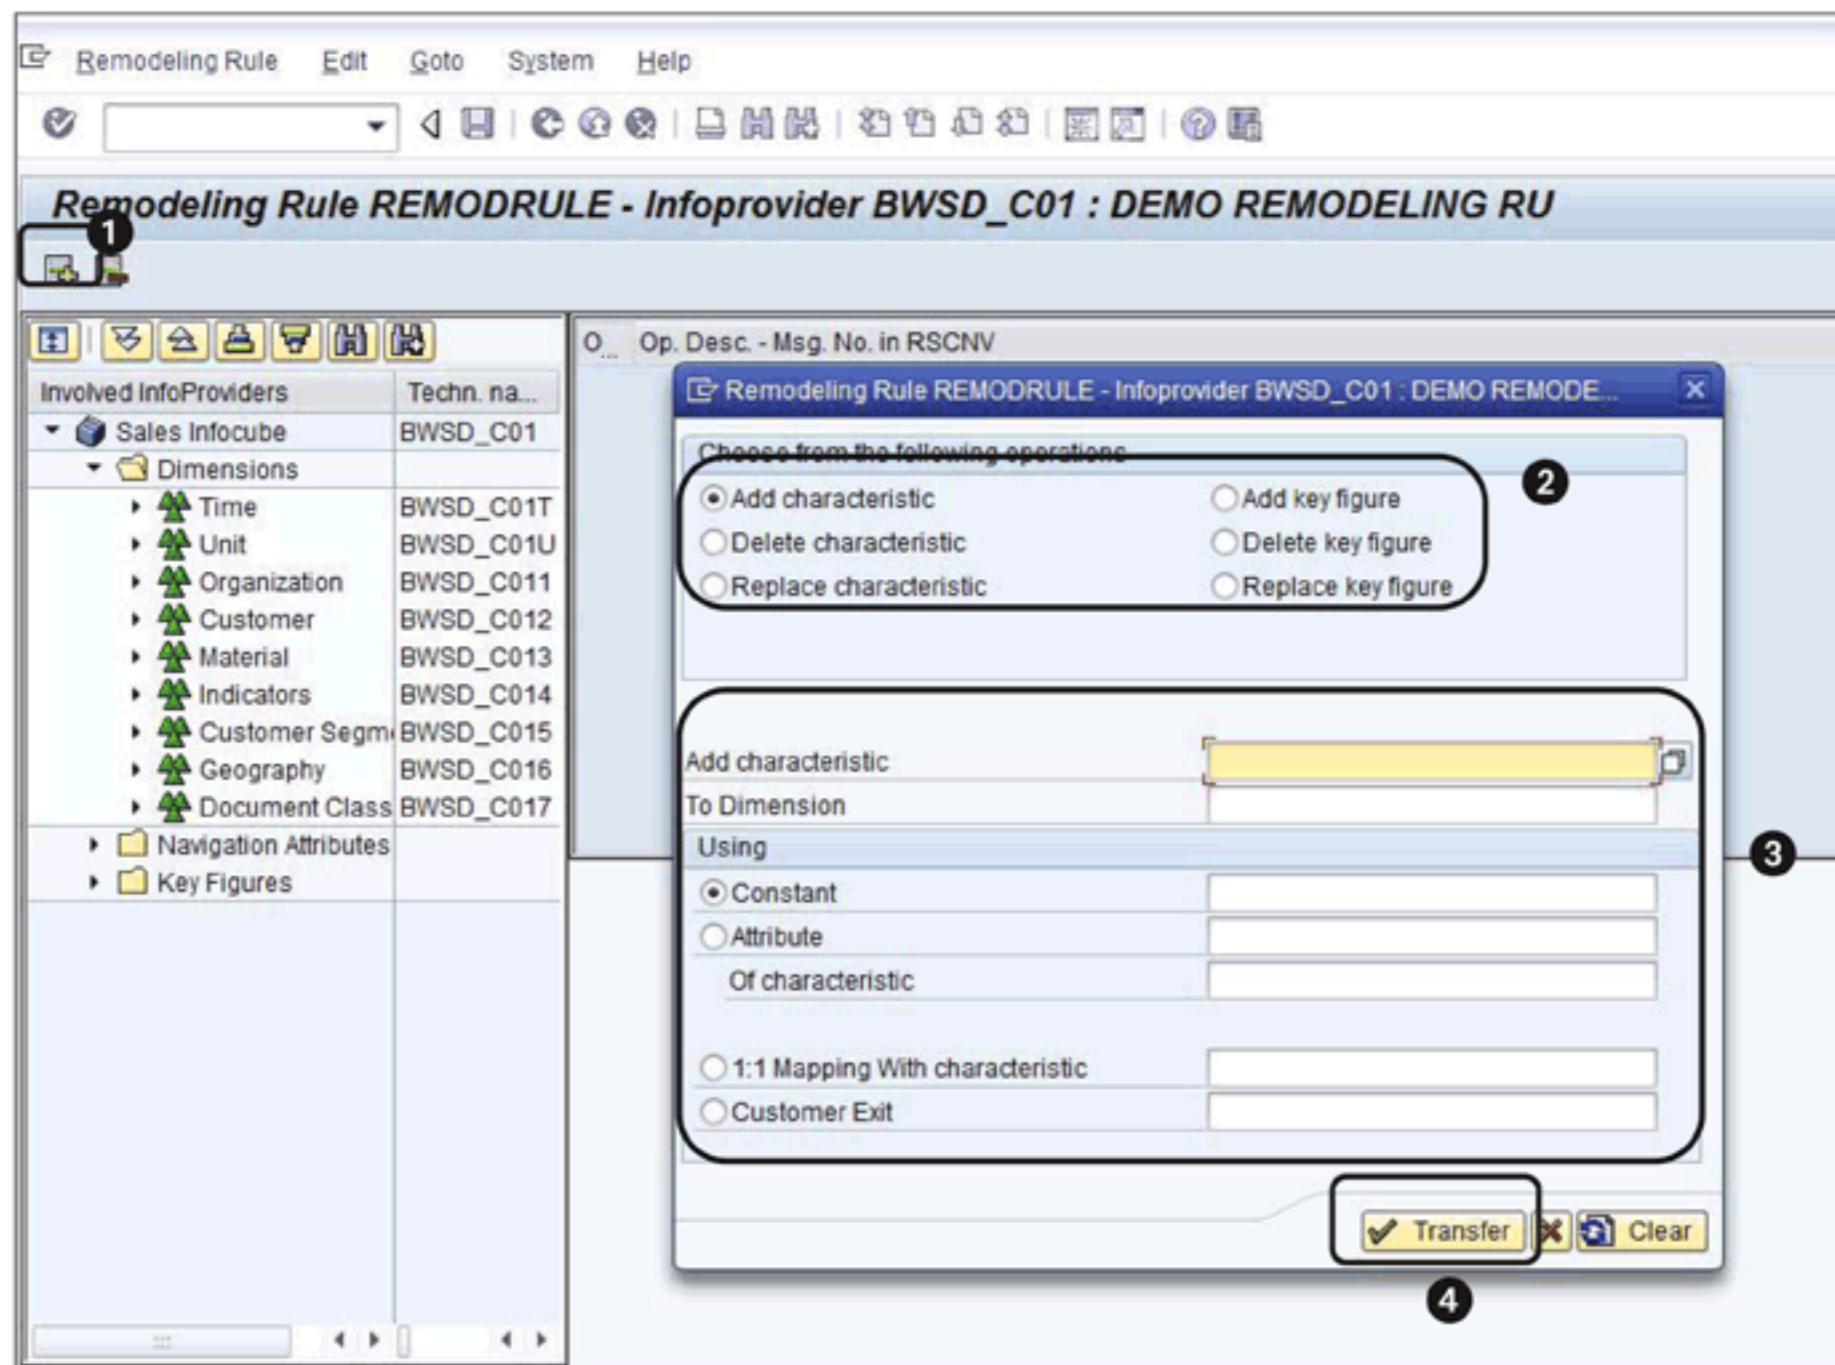

Figure 15.24 Define Operations
This takes you to a screen where you can specify the name of the rule and the InfoProvider. To create a new rule, click on the **CREATE** button (❷ of Figure 15.24). A pop-up box appears to enter the description of the rule. Enter the description, and then click on the **TRANSFER** button (❸). On the next screen, you can define the rule for the selected InfoCube (Figure 15.24).
Click on the icon shown in ❶ of Figure 15.24 to add an *operation* to the rule. A pop-up box appears in which you can select the type of operation you want to perform (❷); maintain the parameters and logic for the operation in the bottom part of the pop-up box (❸).